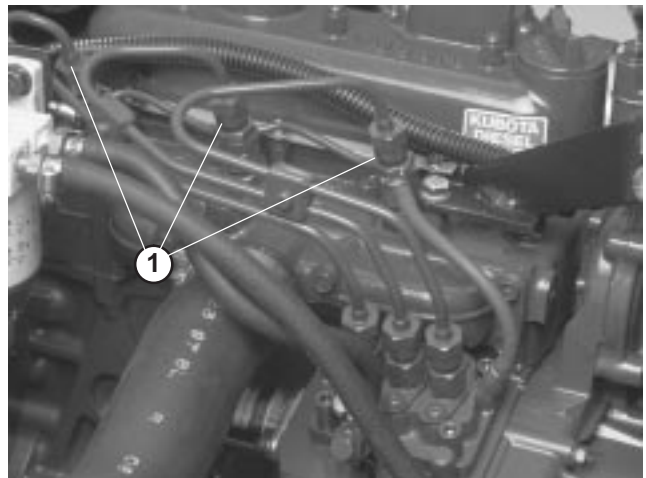

Figure 53
1. Loosen the pipe connection to the No. 1 nozzle and holder assembly (Fig. 53).